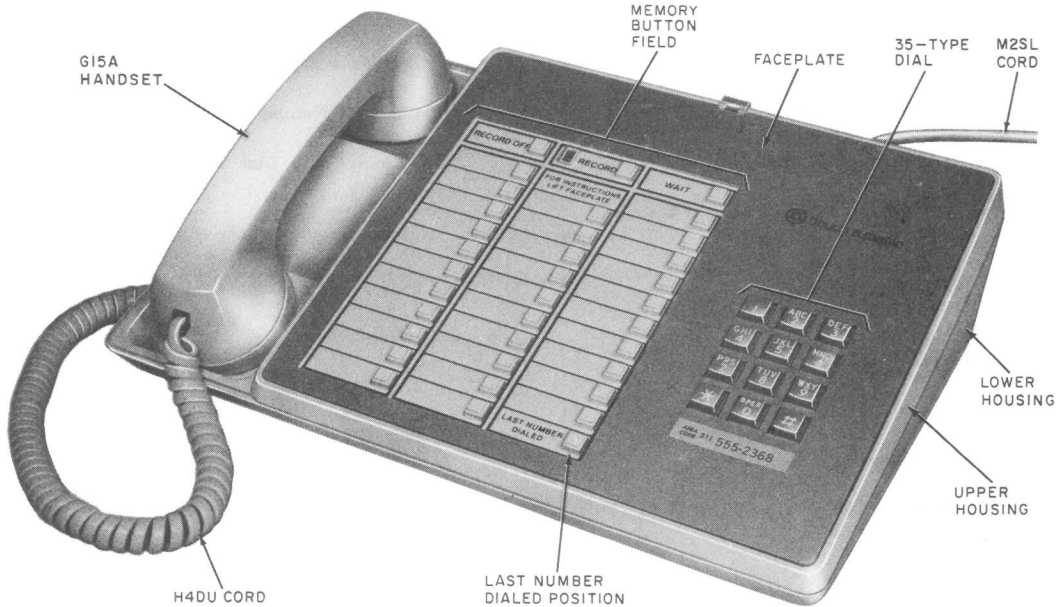

Fig. 1—2870A2M Telephone Set
1.01 This section contains identification, installation, connections, and maintenance information for the 2870A1M (MD) and 2870A2M telephone sets (Fig. 1).